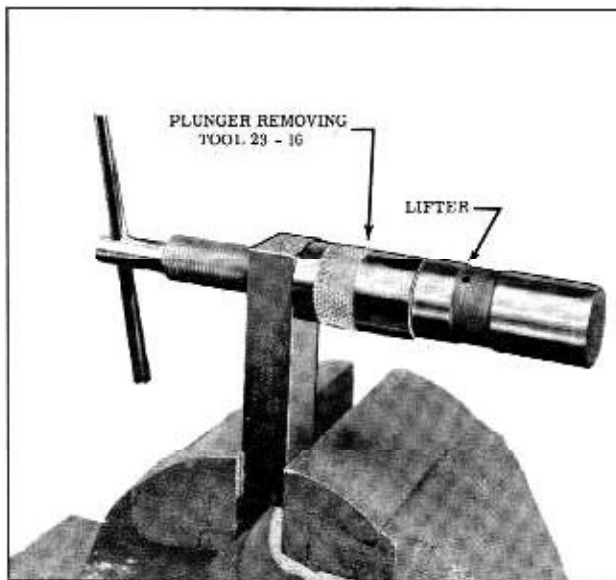

Fig. 8-14 Removing Plunger
3. Remove plunger and plunger spring. If plunger is stuck tight, allow lifter to soak in "D-Carb" solvent for approximately five minutes, then remove plunger. Tool 23-16 may be used if plunger does not fall out. (Fig. 8-14)